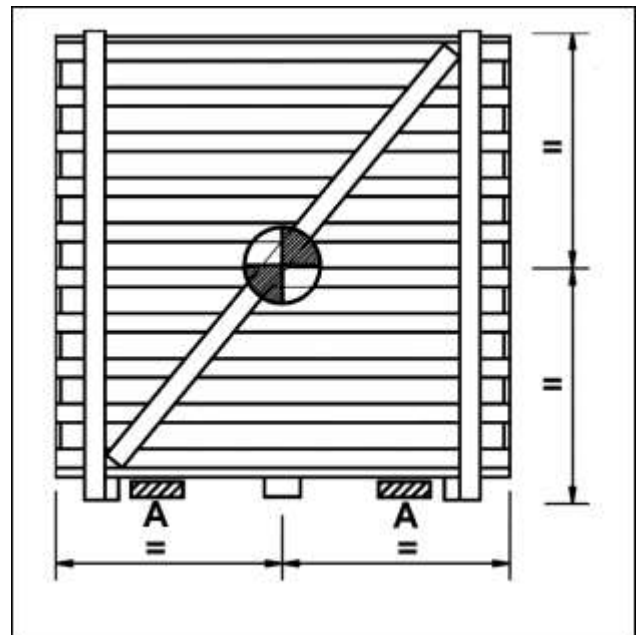

Fig. 2.1
To move the machine when crated (Fig. 2.1) use best a forklifts, introducing the forks (A) in the space between the base of the packaging and the floor, using the maximum width permitted by the crating. In those cases in which this transport method is not possible and the machine must be lifted by a crane: